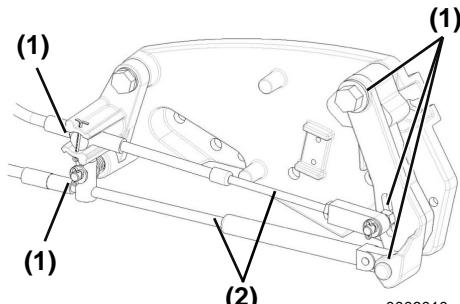

Figure 10
Lubricate the shift cable pivot points (Figure 10, (1)) and the guide contact surfaces (Figure 10, (2)).